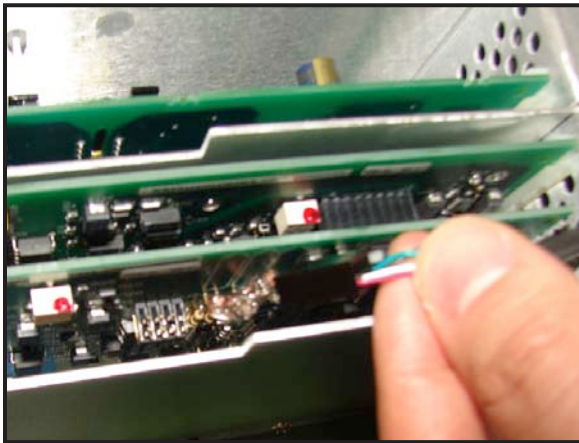

Figure 6-31
5. If present, disconnect the MECG cable from the connector on the MECG board (See Figure 6-31).